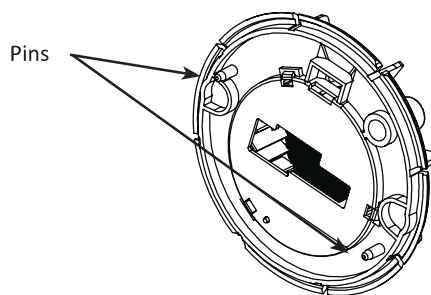

FIGURE 10: Pins on Back of Optic Cage Base
8. Line up the two pins on the back of the optic cage base to the pin holes on the circuit board to place the optic cage base on the circuit board (FIGURE 10)